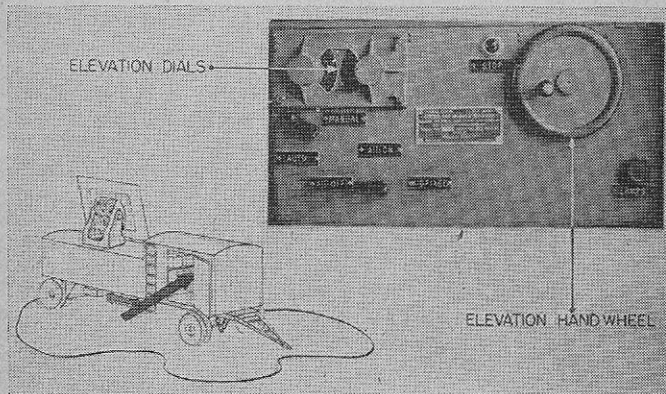

FIGURE 14.—Elevation (angular height) control unit panel.
d. Figure 14 shows the front panel of the **ELEVATION (angular height) CONTROL UNIT**. A brief description of the dials and controls is as follows: